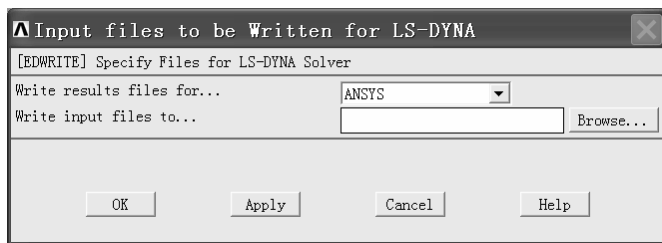

图 4-88 “Input files to be Written for LS-DYNA”窗口
(1) 依次选择 Main Menu>Preprocessor>Solution>Write Jobname.k, 弹出“Input files to be Written for LS-DYNA”窗口(见图 4-88)。